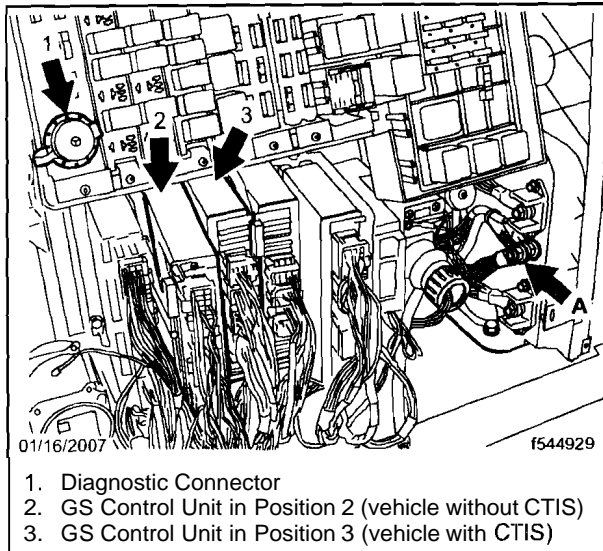

Fig. 1, Electrical Compartment
3. Connect the Star Diagnostic computer, with a printer, to the diagnostic connector in the electrical compartment. See Fig. 1.
7. Before proceeding, correct any "Actual" fault codes (F) that are indicated.
- 16.1 Locate the GS control unit in the electrical compartment and disconnect the four connectors. See Fig. 1.